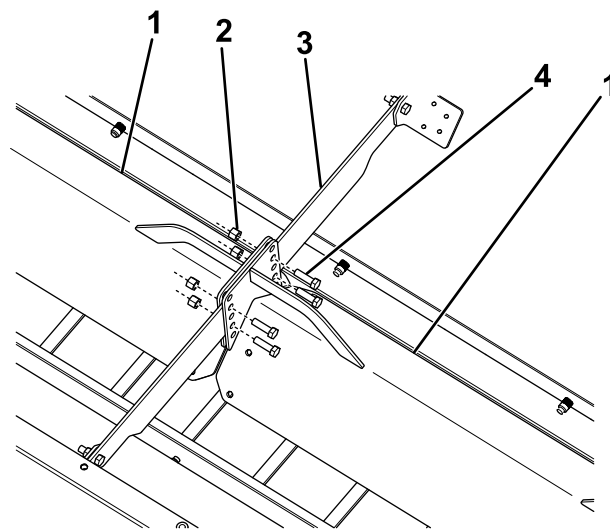

Figure 16
- Align the free ends of the baffles and secure them to each other and the spreader cross-bracket using 4 bolts (3/8 x 1-1/4 inches) and nuts (Figure 16).